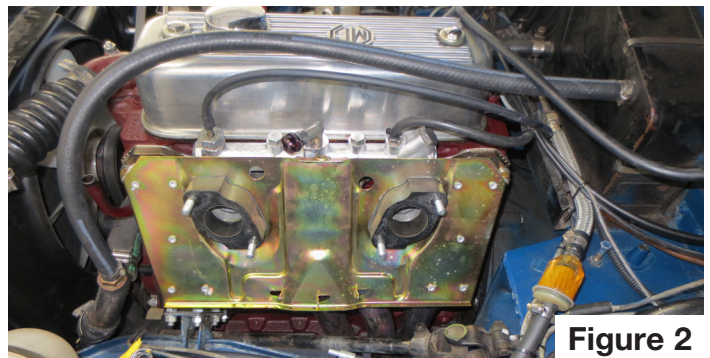

Figure 2
- 2) Remove the choke/throttle cable bracket from the intake manifold if your vehicle has one. It will not be reused. If you will be modifying your intake manifold to accept the early style PCV valve, remove the manifold now. If you have purchased 366-395 PCV kit and will be drilling and tapping for the elbow, remove the manifold and do it now. Don't forget to thoroughly clean the manifold and replace the intake/exhaust gasket. If your carburetor spacers or heat shield are damaged or missing, replace them now. Make sure to use new carburetor gaskets (provided). Figure 2.